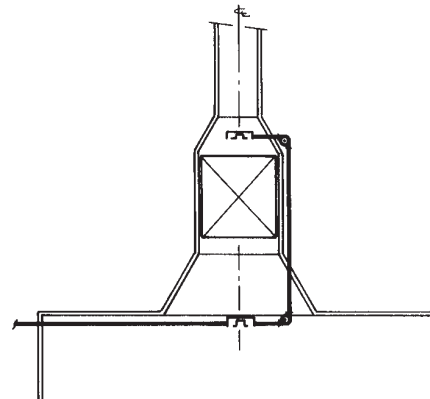

FIGURE 119
- ▶ If an electrostatic precipitator is located at or near the base of the exhaust duct, it is necessary to locate a detector below the precipitator, at the base of the duct, and also locate one in the duct, just above the precipitator. See Figure 119.